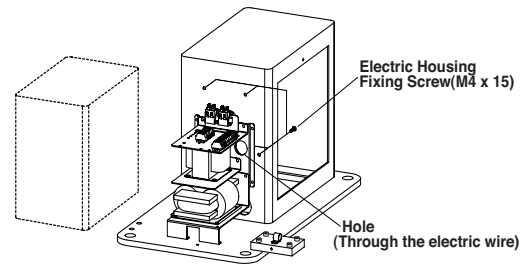

Fig.5-9 Electrical Housing
(4) Electrical Connections in The Utility Section
A.Remove the four screws (M14 x 15) from the inside of utility box and open the electric housing.(Fig.5-9)